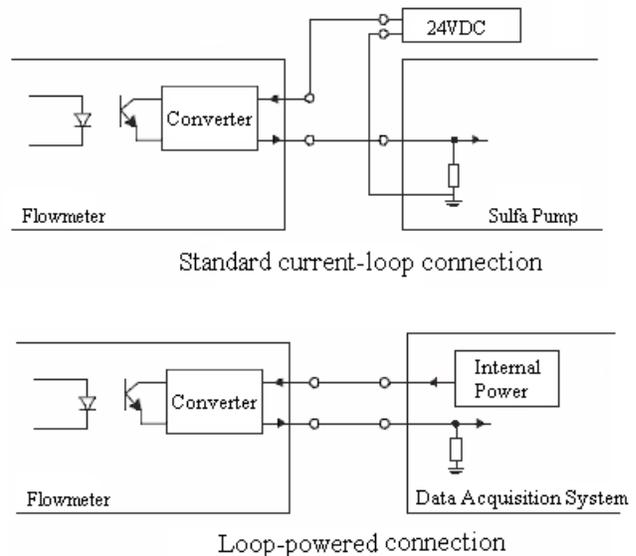

Figure 3.1. Connect the isolated 0/4-20mA analog output to an external device. 27
*Wiring:* There are two ways to wire this analog output to an external device: standard current-loop connection and loop-powered connection (Figure 3.1.) Which connection to use is totally dependent on whether the external device provides 24VDC power to the current-loop. If yes, use the loop-powered connection.